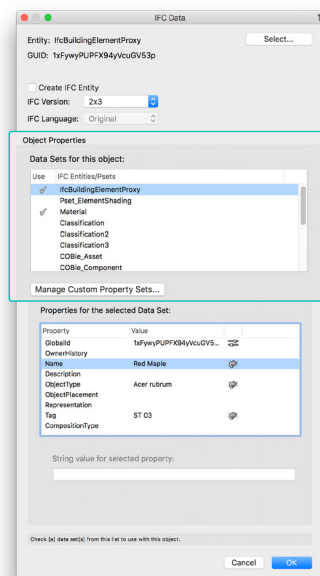

FIGURE 18B
2. The data sets assigned to the object, referred to as property sets, or pSets (Fig. 18B). A check mark under the **Use** column indicates that this data set is attached to the object.